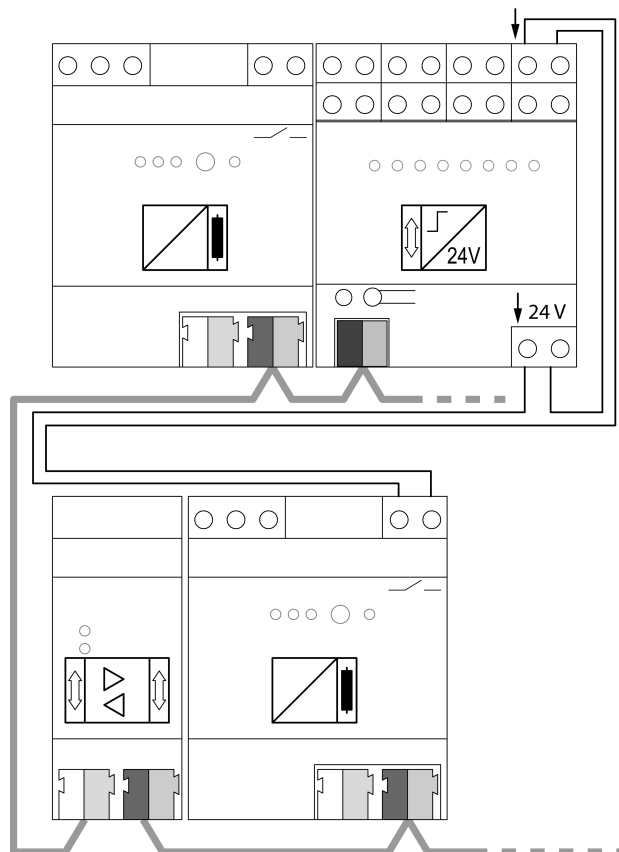

Figure 6: Application example – KNX binary input on main line for detecting and centrally signalling diagnostic messages
- Connect the KNX binary input according to the connection example (Figure 6).